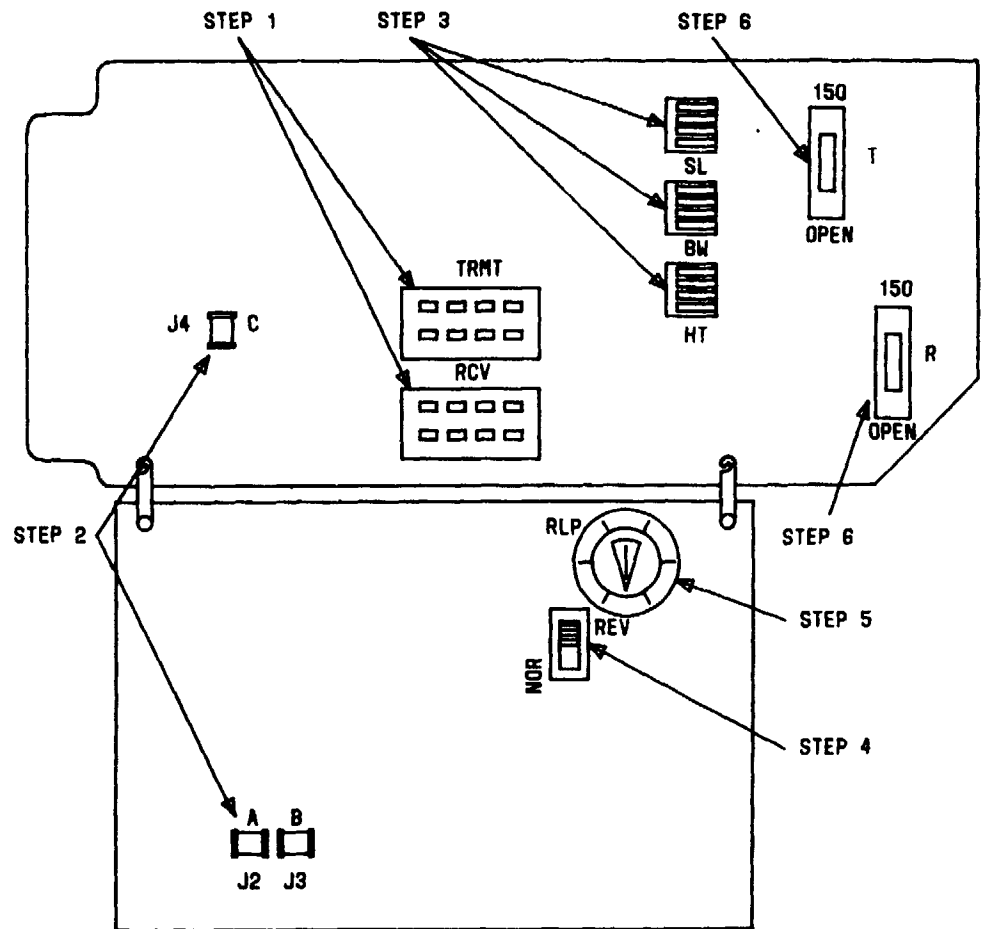

FIG. 1
- [5] From information on WORD or CLRC, set DX balancing potentiometer RLP [FIG. 1]
- [6] From information on WORD or CLRC, set terminating impedance for T and R [FIG. 1] [DLP-562]